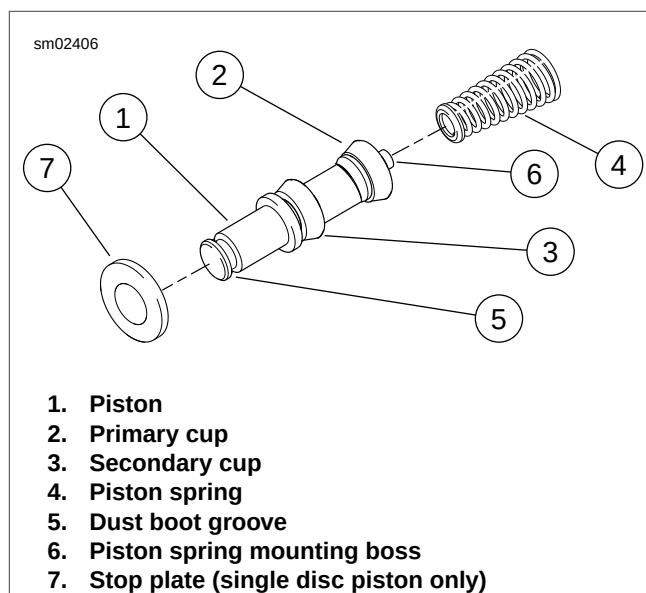

Figure 2-73. Front Brake Master Cylinder Piston (Typical-Single Disc Piston Shown)
3. See Figure 2-73. Install piston assembly into master cylinder.
- a. Press small end of piston spring (4) onto mounting boss (6) on piston (1).
- c. **Single disc piston:** Slide stop plate (7) down over end of piston.
- a. **Dual disc master cylinder:** Press down on piston (14) and install **new** retaining ring (15). Verify that retaining ring is fully seated in groove.
- b. **Single disc master cylinder:** Press down on piston (14) and stop plate (22), and install **new** retaining ring (15). Verify that retaining ring is fully seated in groove.
5. Install **new** dust boot (16). Large lip of dust boot fits down inside end of piston bore. Small lip of dust boot fits into groove in end of piston (item 5, Figure 2-73).
- a. Pivot hole in brake hand lever (18).
- b. End of piston (14).
7. Align hole in brake hand lever with hole in master cylinder bracket. From top of assembly, slide pivot pin (9) through bracket and hand lever.